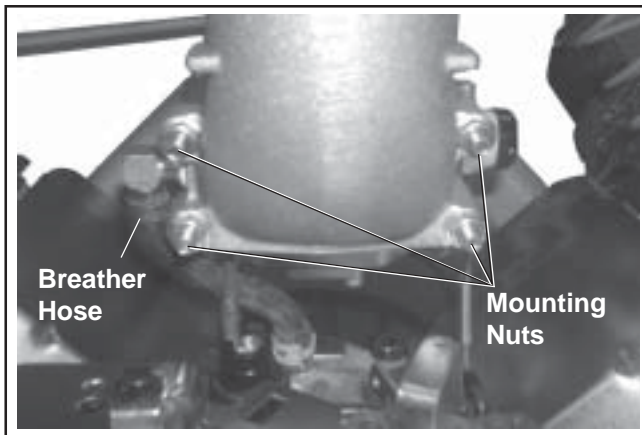

Figure 9-12. Breather Hose, Mounting Nuts, and Adapter Elbow (Two-Barrel Model Pictured).
2. Remove the two screws (one-barrel carburetor models), or the four hex flange nuts (two-barrel carburetor models), securing the adapter or elbow. See Figure 9-12.